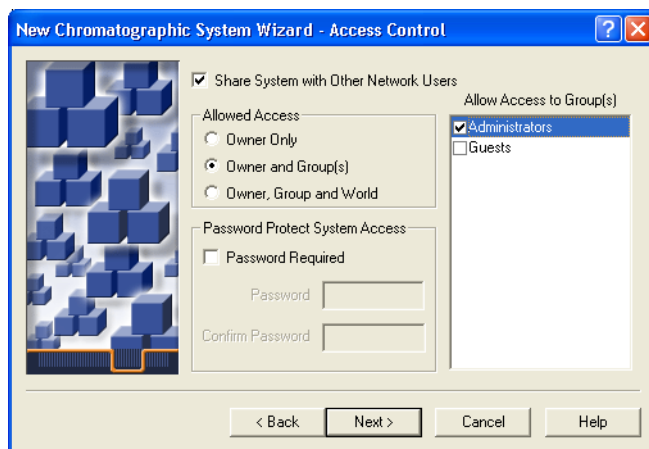

Figure 3-8 New Chromatographic System Wizard–Access Control Page
5. Click **Next**. The Access Control page appears (Figure 3-8).